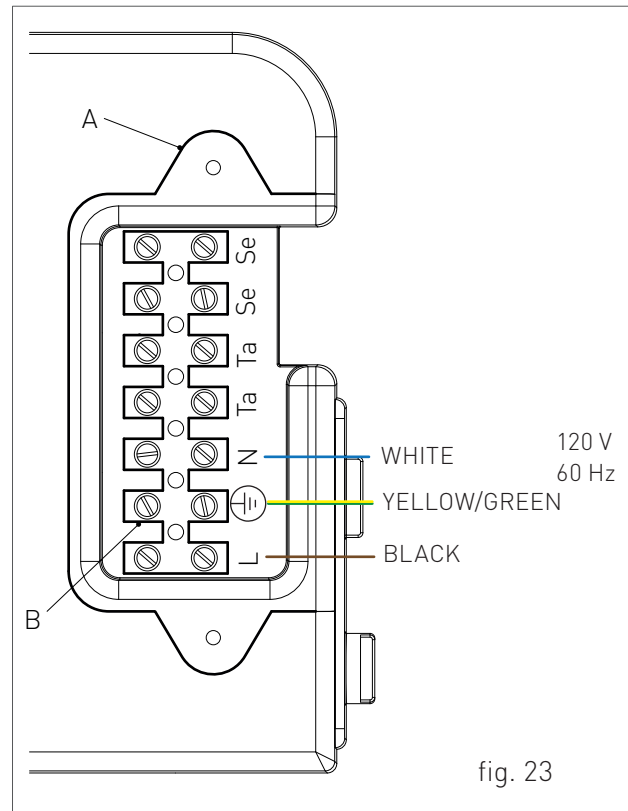

fig. 23
- › loosen the two screws and remove the plate "A" (see fig. 23).
- › after removing the plate, connect the electrical cables to terminal "B" (see fig. 23):